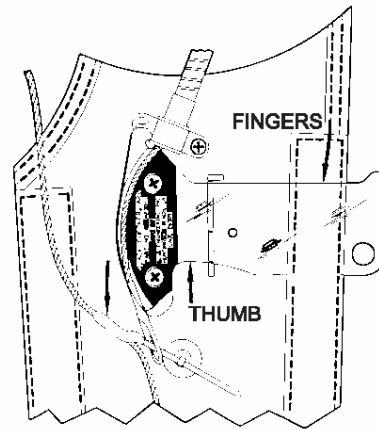

Figure 4. Slack Checker.
- d. Refer to Figure 4. Grasp the slack checker with the right hand, palm down, and with the thumb pressed into the curved recess. Grasp the swaged section of the ripcord pin with left hand. Simultaneously rotate the slack checker and ripcord pin in the directions shown by the arrows. Hold the ripcord pin with the left hand in a fixed position when it becomes horizontally aligned.